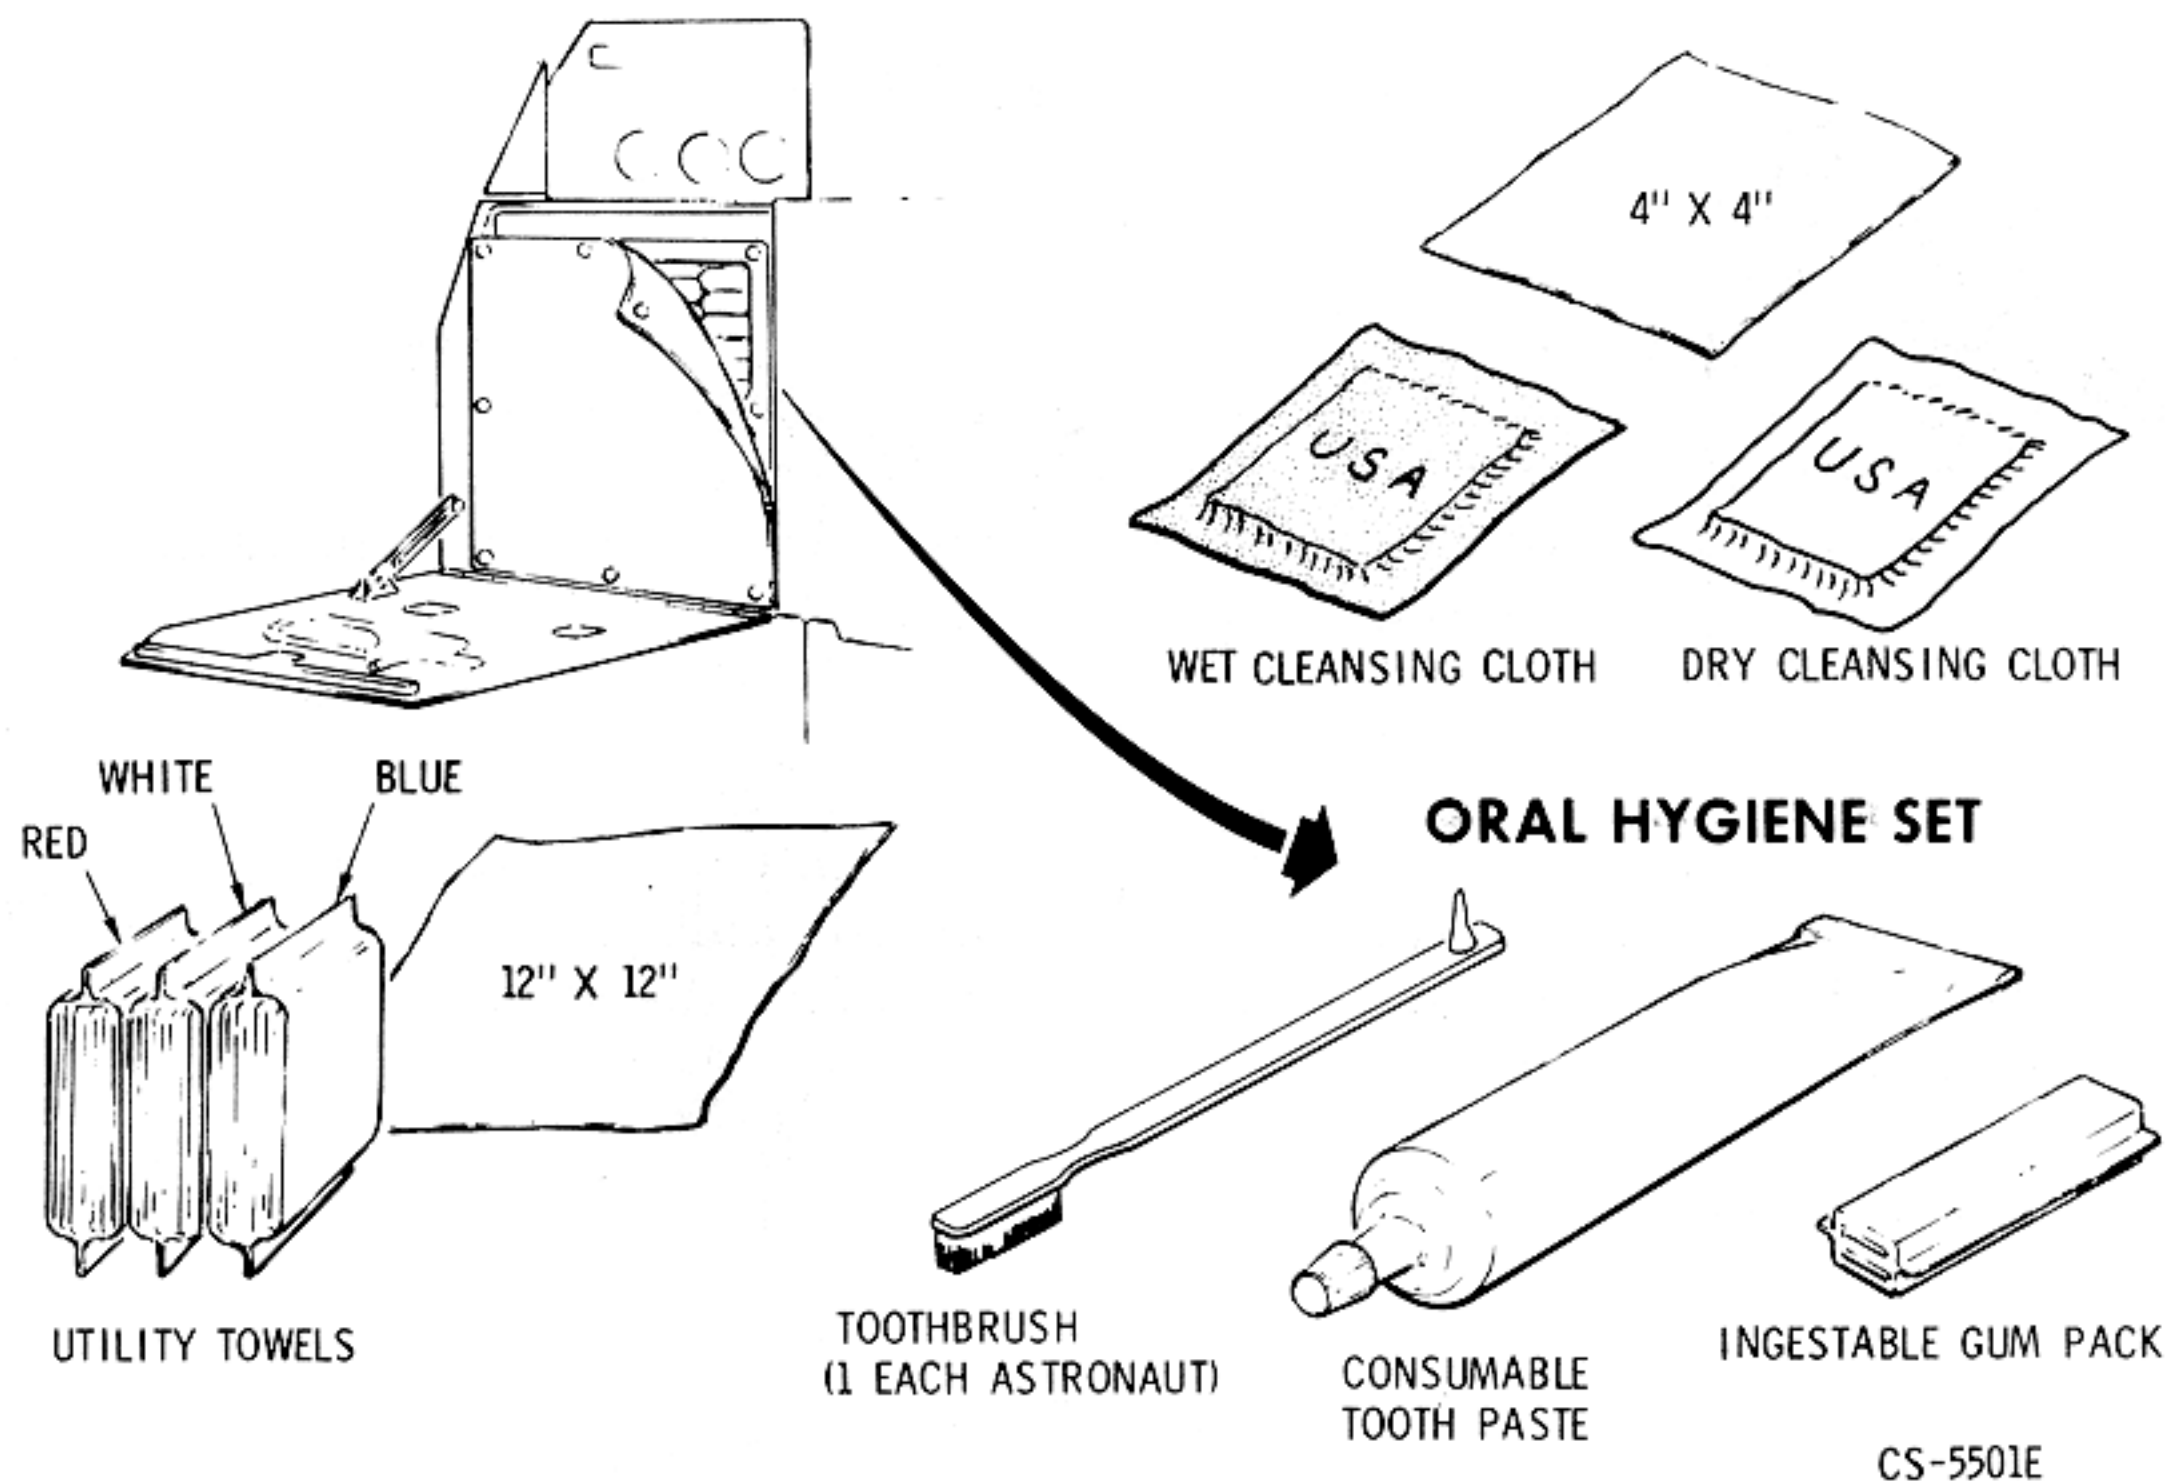

Figure 2.12-45. Personal Hygiene Items
2.12.6.4 Personal Hygiene (Figure 2.12-45).